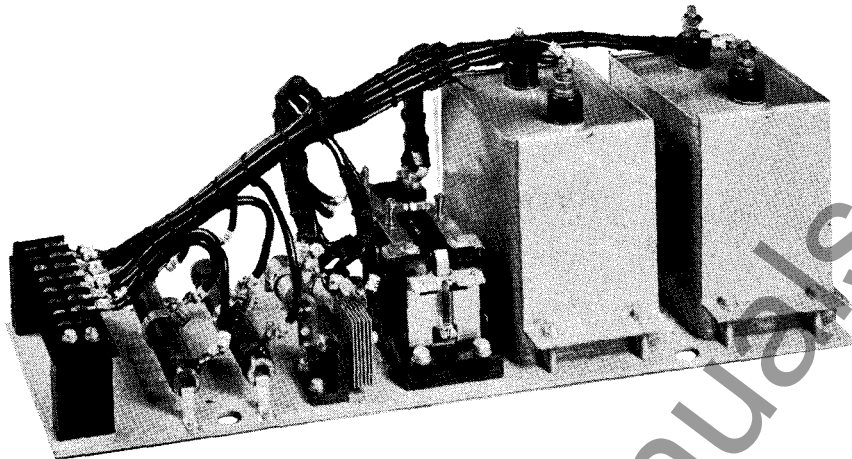
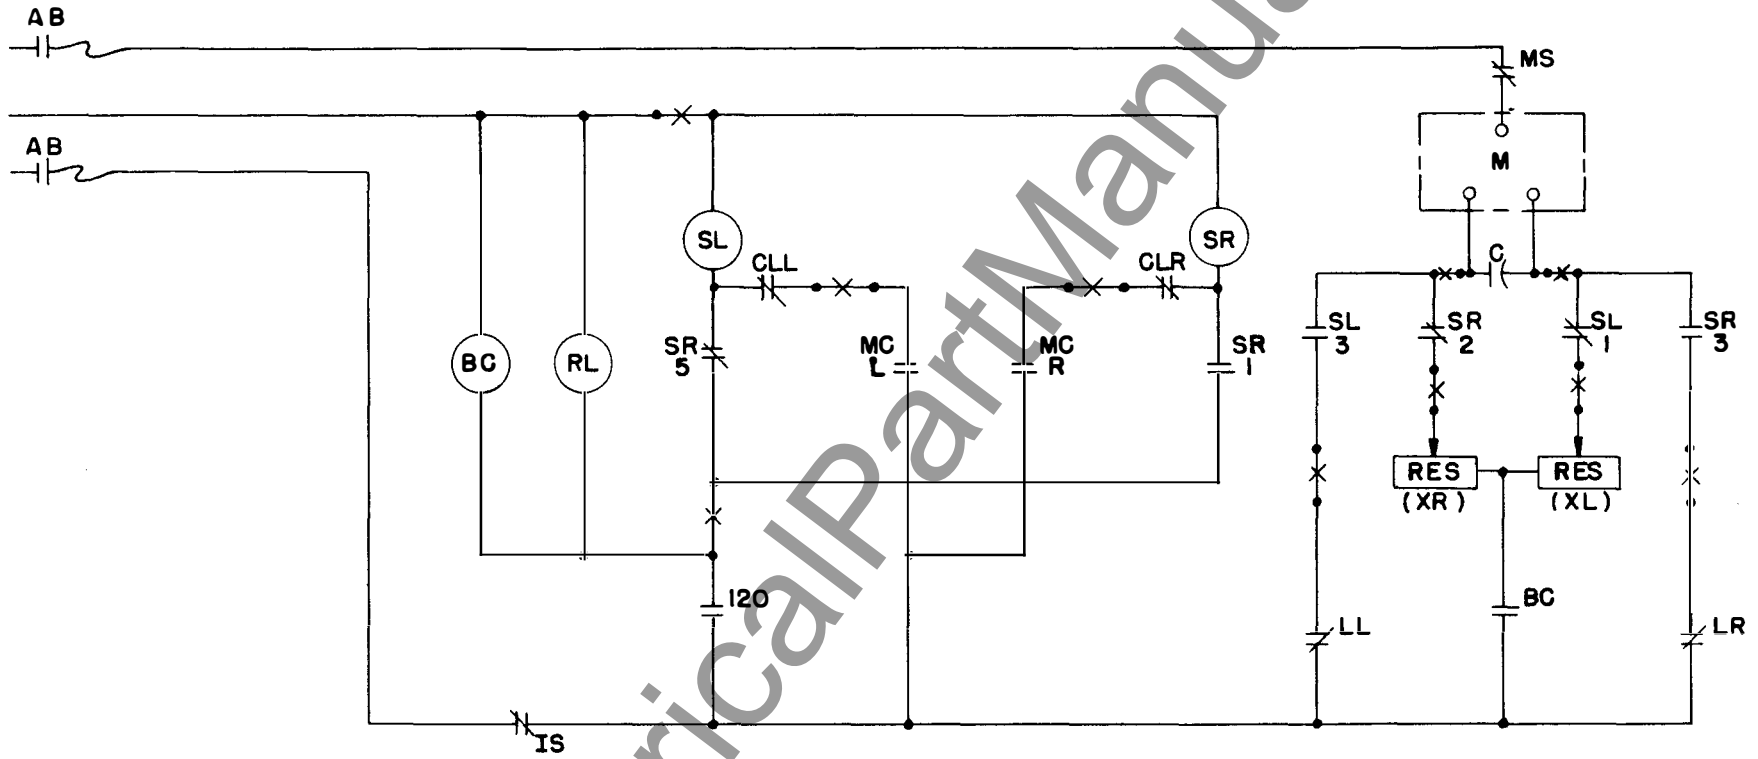

FIG. 2
FIG. 7
Figure 2 shows the arrangement of the equipment when used with the 120 cam switch. Here, in addition to all of the aforementioned equipment, is mounted the motor capacitor and a 400 ohm resistor.
Now, let us consider the RC "DynAC Brake" shown in Figure 2. This RC "DynAC Brake" will be connected into the circuit as shown in Figure 7. The operation of the RC "DynAC Brake" and associated control equipment is as follows:
If we now consider the operation of the RC "DynAC Brake" of Figure 2 when operating in the lower direction, we will see a slight difference in the initial operation only. The operation of the RC "DynAC Brake" and associated control equipment is as follows:
- a. First close the MCL contact. This will energize the SL relay and the RC "DynAC Brake" relay simultaneously. The RC "DynAC Brake" relay will be energized through the SR5 contact. As the two relays, the SL and the RC "DynAC Brake", are energized simultaneously, it has been necessary to introduce an additional time delay into the RC "DynAC Brake" relay to assure that the SL motor control relay will have definitely completed its operation prior to the closing of the BC contact of the RC "DynAC Brake" relay. This delay has been obtained by the introduction of a 400 ohm resistor in the RC "DynAC Brake" relay. This additional resistor, used only in the RC "DynAC Brake" relay of Figure 2, has been fully explained both as to its purpose and how it accomplishes same under the DESCRIPTION portion of this Instruction Leaflet.
In the case of two resistors as used in Figures 2, 4, and 7, the slides should never be set so that the total resistance  $XL+XR$  is less than 2 ohms.